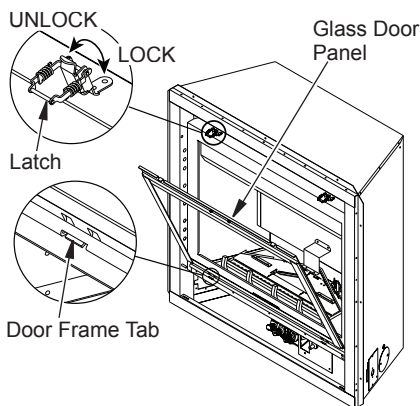

Figure 58 - Removing/Replacing Glass Door
3. Hold glass frame with one hand and with other hand unlock two door latches found on top of firebox to release tension on door frame (see Figure 58).
5. Lift lower frame tabs out from positioning slots found on lower frame retaining bracket (see Figure 58).